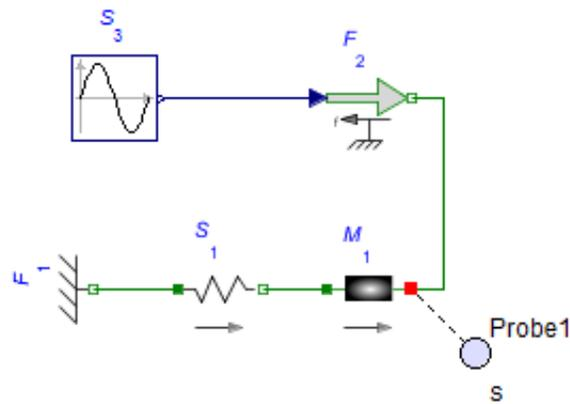

Fig. 2: Component diagram
1. Attach a **Probe** to the **Mass** component as shown in Fig. 2. Click this probe and select **Length** in the **Inspector** tab. This will show the position of the mass as a function of time.